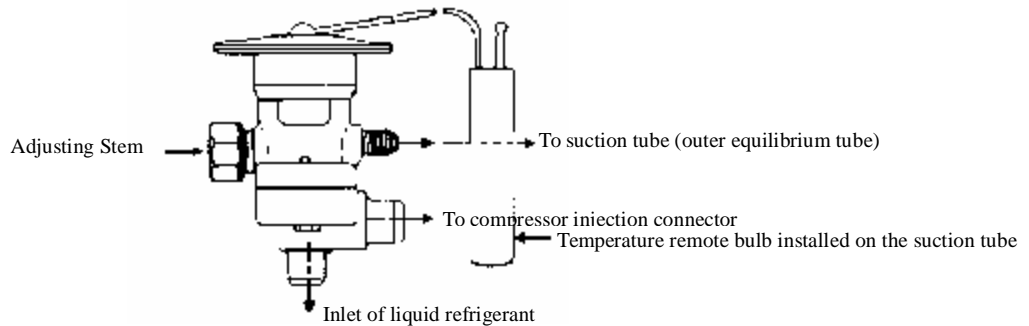
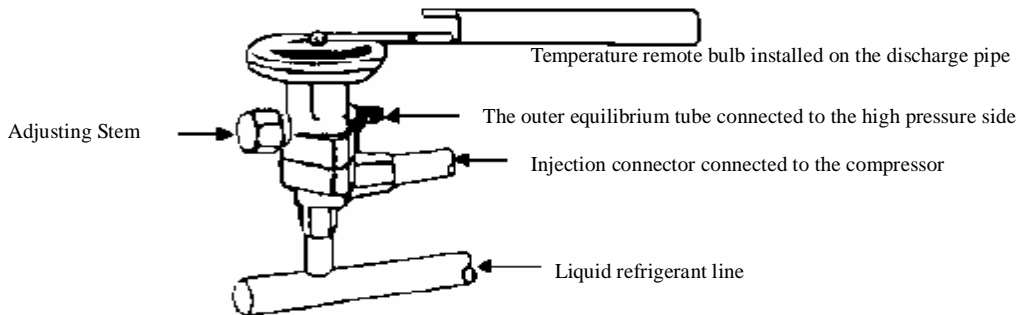

Fig 1.11 Installation of low-temp expansion valve
Fig 1.12 Installation of high-temp expansion valve
- c. In case of the liquid injection devices required to be piped to inject the liquid refrigerant into the middle pressure position of the compression chamber, the low-temp type of expansion valve should be installed in accordance with the illustration given in fig. 1.11 and, the high-temp type of expansion valve should be installed in accordance with the illustration given in fig.1.12.
- c. When the compressor applied in the low temperature system (E.T. $\leq -10^{\circ}\text{C}$), the compression ratio is high at this condition, also the discharge temperature will be very high. Therefore the use of liquid injection system is essential. The design of the liquid injection system for low temperature application which is similar to the illustration shown in fig. 1.12; and it could also be injected into the compression chamber by liquid injection from the liquid line for reducing the discharge temperature such as shown in fig. 1.12. It is also necessary for the customers to use the liquid injection system to cool down the motor due to the suction gas at this condition, which often have high superheat even higher than 15K.